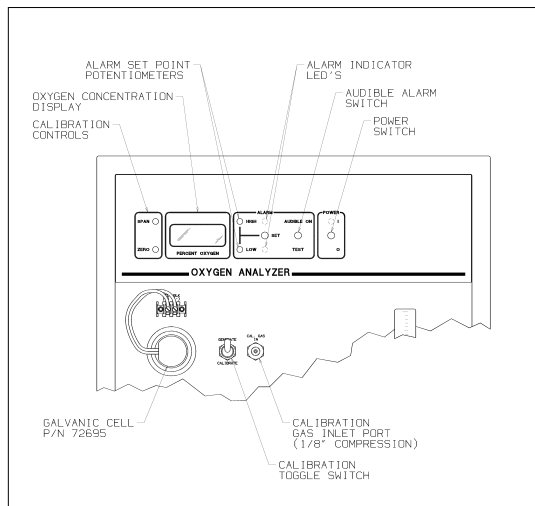

Figure 3 - Front Panel Controls
The oxygen analyzer has all the controls necessary to assure safe and accurate monitoring of the oxygen concentration in a process stream. The analyzer is equipped with the following controls and features (see Figure 3):
**Calibration Controls** - The calibration controls are located to the left of the oxygen concentration display. The zero potentiometer is used to zero the instrument when a zero gas (containing no oxygen) is introduced. The span potentiometer is used to set the analyzer reading to the specified concentration of oxygen in the span gas. The inlet port for the calibration gas is 1/8" compression and is located on the front of the unit, as shown in Figure 3. The inlet pressure to the calibration port should be between 2 psig and 145 psig (0.14 barg and 10 barg) to yield accurate readings for calibration. The switch located to the left of the calibration port is toggled down for calibration and up for nitrogen purity monitoring (see Figure 3). (Note: Parker recommends setting the pressure of the calibration gases as close to the operating pressure of the system as possible to ensure optimal accuracy in oxygen concentration readings.) The generator will continue to produce nitrogen even while the analyzer is being calibrated (see Operation section for calibration instructions).
There are two methods of calibrating the oxygen analyzer: the two point method and the single point method. In the two point method, the first point in the calibration range is set to zero using a zero gas (zero percent oxygen), and the second point in the range is set to a known percentage of oxygen using a span gas (known quantity of oxygen, per gas supplier) or compressed air (20.9% oxygen). In the single point method, only one point in the calibration range is set, using either span gas or compressed air. Maximum accuracy in oxygen concentration monitoring will be achieved if the oxygen concentration in the span gas is within the range of the expected oxygen concentration in the process stream and the pressure of the gas closely approximates the pressure of the nitrogen gas (See Figure 3 for calibration controls).